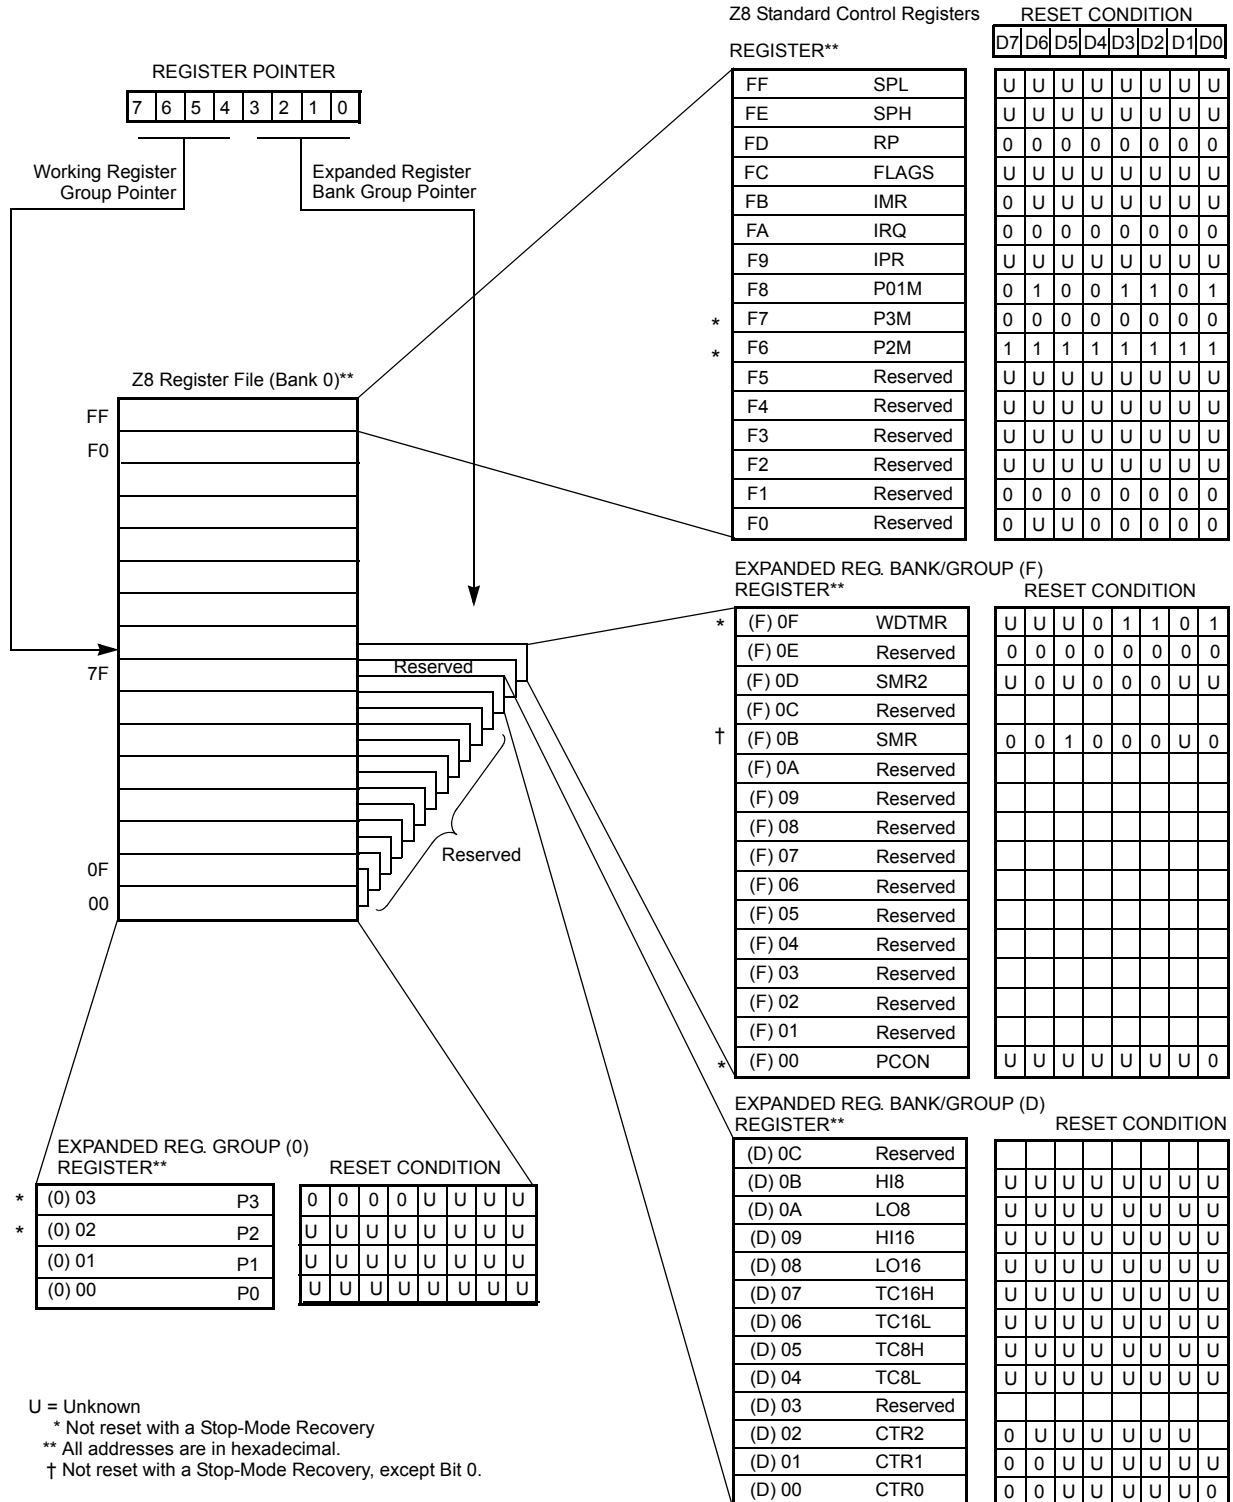

Figure 22. Expanded Register File Architecture
► **Note:** The expanded register bank is also referred to as the expanded register group (see Figure 22).
For example, Z86E73 (see Figure 22):